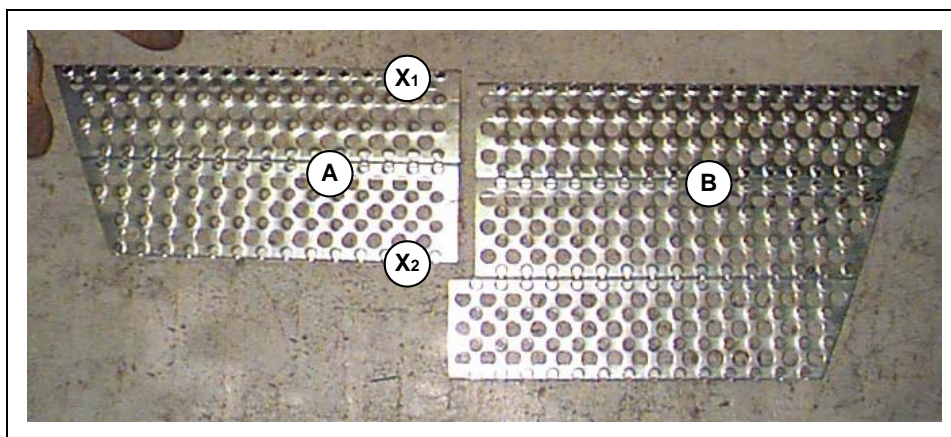

Figure 10T "X" Marks hinge points for outside catwalk door.
1. Snug bolt outside catwalk diagonal support to outside catwalk support clips around perimeter of dryer. Two (2) catwalk support clips were installed on each vertical channel as wall sheets were installed.
2. Pre-assemble outside catwalk door (see Figure 10T) as follows. (Double nut at **X** for movement of parts.)